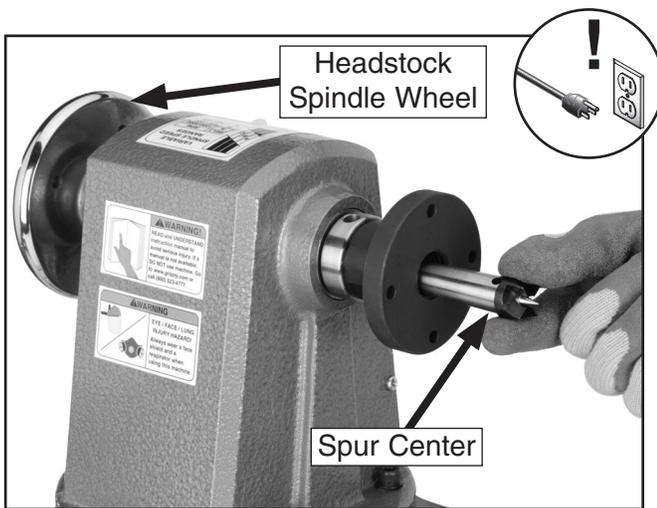

Figure 23. Inserting spur center into spindle.
2. Insert the tapered end of the center into the spindle, and push it in quickly and firmly (**Figure 23**).